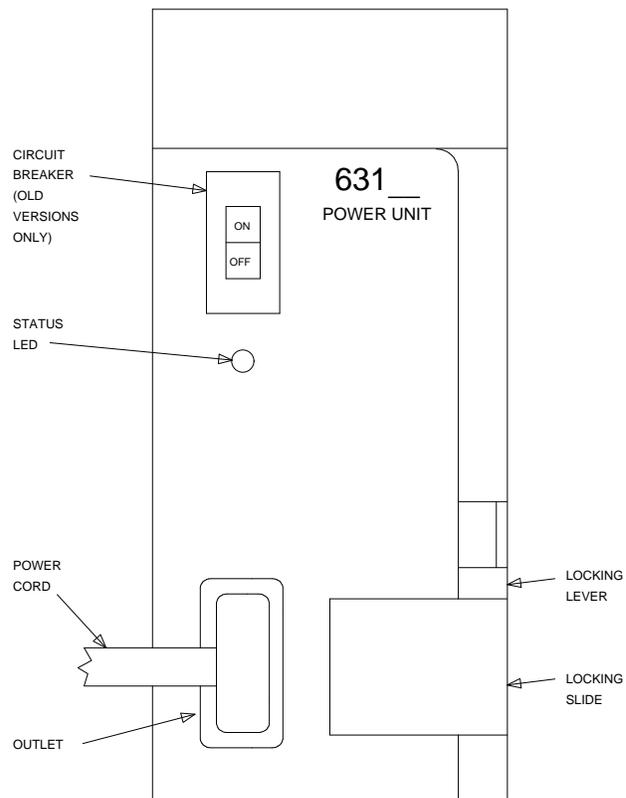

Figure 7-23. 631-Type Power Unit
14. Connect the power cords to the power units. The power cords are the white cables equipped with plugs that are run through the slots in the front of each carrier (see Figure 7-23).